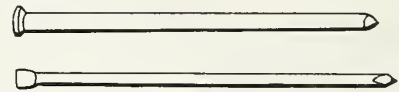

Fig. 2
**Finishing nails** have only very small heads. You can drive them below the surface with a nail set or another nail, and cover them. Use them where looks is important, as in putting up panelling or building shelves. (Fig. 2)